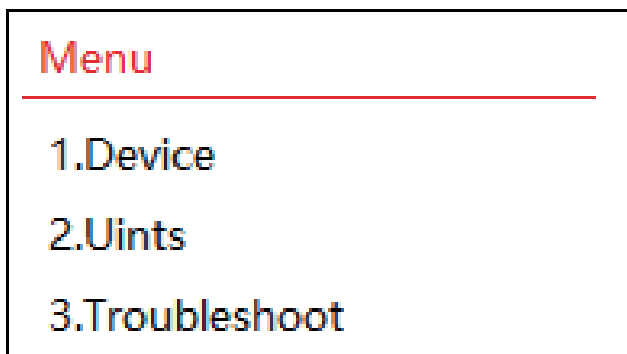

Fig. II.3.1
- 2) Press the up arrow and the down arrow simultaneously, the menu interface will appear. Refer to Fig. II.3.1.